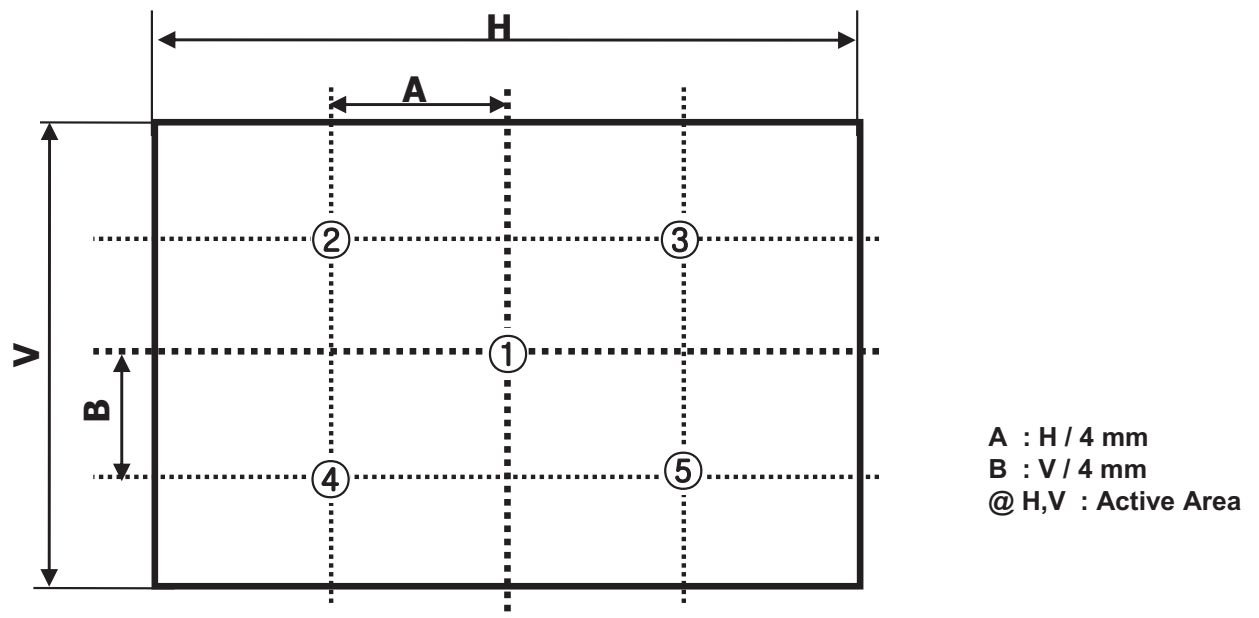

FIG. 2 5 Points for Contrast Ratio
n = the Position number(1, 2, 3, 4, 5). For more information, see FIG 2
- (1) Temperature : 5 ~ 40 °C
- (2) Humidity : 35 ~ 75 %RH
- (3) Period : 6 months
- (4) Control of ventilation and temperature is necessary.
- (5) Please make sure to protect the product from strong light exposure, water or moisture. Be careful for condensation.
- (6) Please keep the modules at a circumstance shown below Fig. 2
< Fig. 2 >